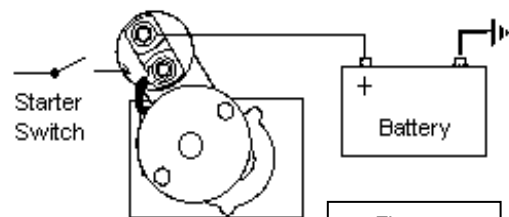

Figure 5
2. The ignition wire is then attached from the starter switch to spade terminal on starter solenoid. (See figure 5)